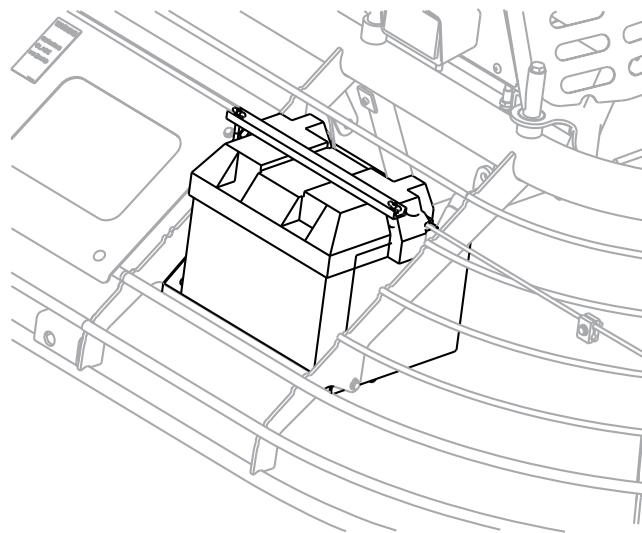

Figure 10. Battery Box
2. To install the battery on the trowel, make sure that the battery is well seated in the battery box (Figure 10).